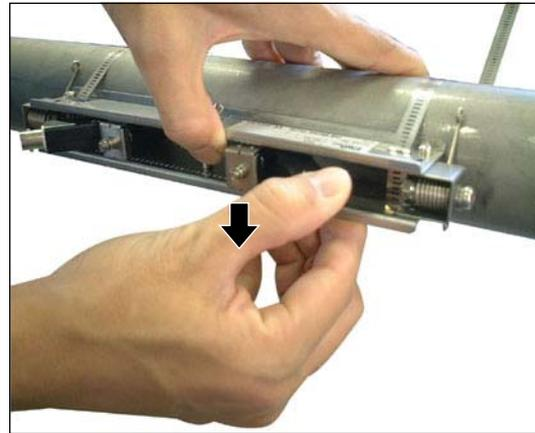

Fig. 3-42
- (3) Likewise, disengage the opposite claws of the sensor unit pressing fixture from the frame (Fig. 3-42).